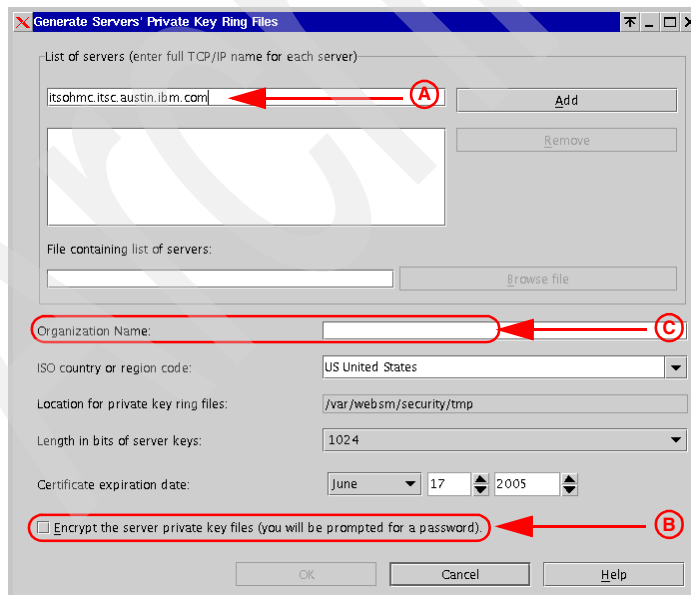

Figure 7-11 Generate Servers' Private Key Ring Files
4. The window shown in Figure 7-11 opens. Verify whether the HMC host name is shown correctly in the field indicated by A in Figure 7-11, then click **Add**.
6. Type the appropriate organization name in the field indicated by C in Figure 7-11 on page 133, then click **OK**.